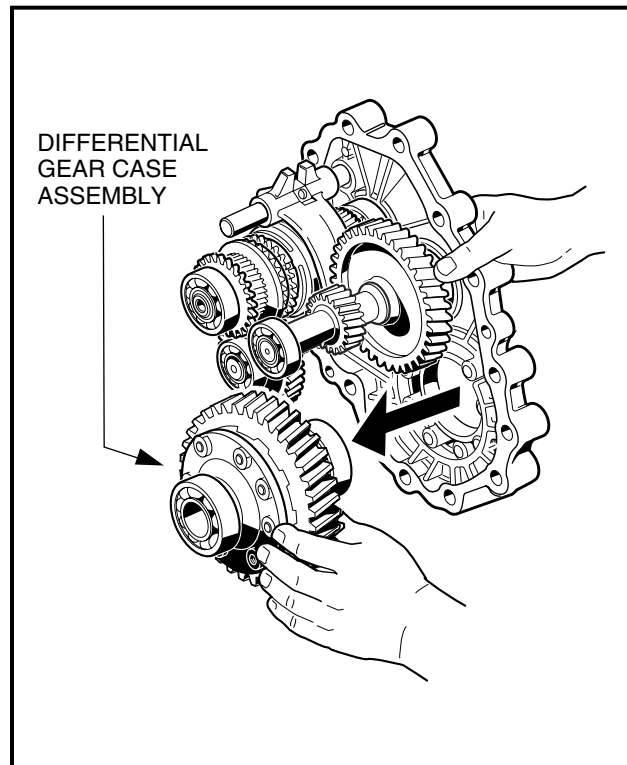

Figure 5-5 Remove Differential Gear Case
6. Remove the differential gear case assembly by gently rocking it while pulling it from the case (**Figure 5-5, Page 5-4**).